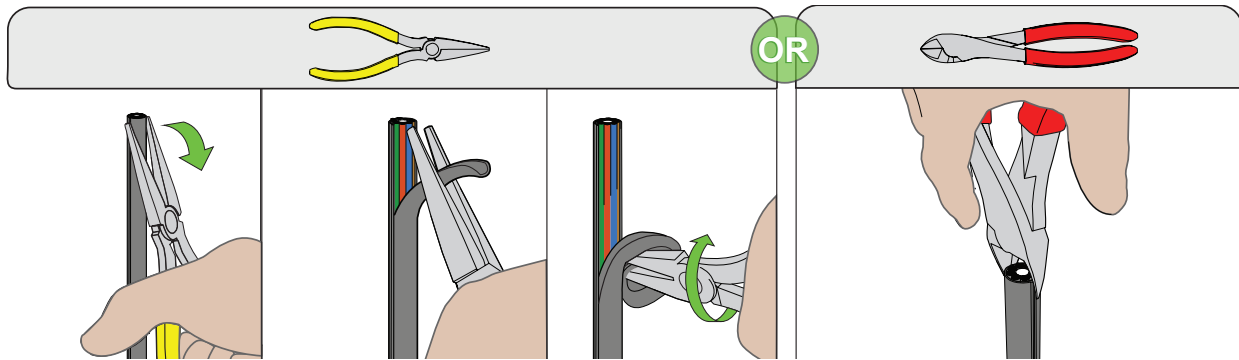

Figure 5
NOTE: Other options: Use needle-nose pliers or side-cutters to start tear (Figure 5).
Step 5: With your fingers (Figure 6A), needle-nose pliers (Figure 6B), or sheath knife (Figure 6C), remove the split pieces of outer jacket at the end of the cable (Figure 5). Continue to remove the jacket by pulling both sides to ring cut. An alternate method is to pull the Ideal tool away from the cable enabling the round blade to pull out the jacket (Figure 6D).